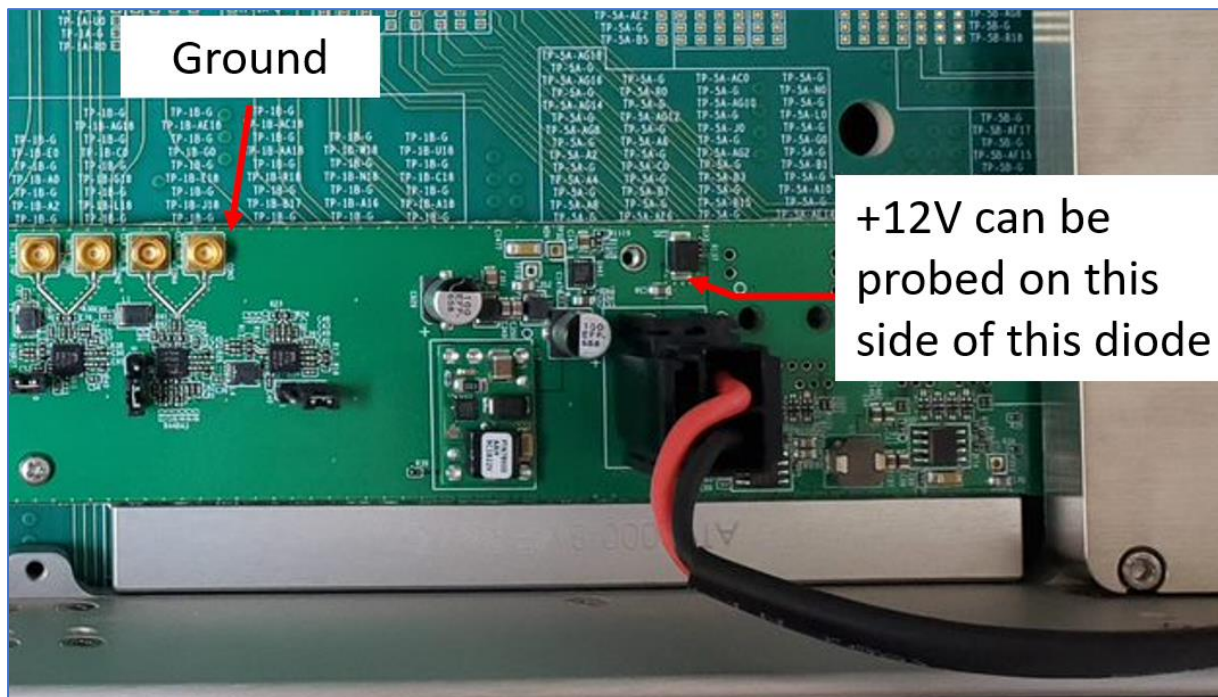

Figure 6: AT93000 +12V power
- If 12V supply is suspect, measure +12V across the diode shown in Figure 6 on both backplanes